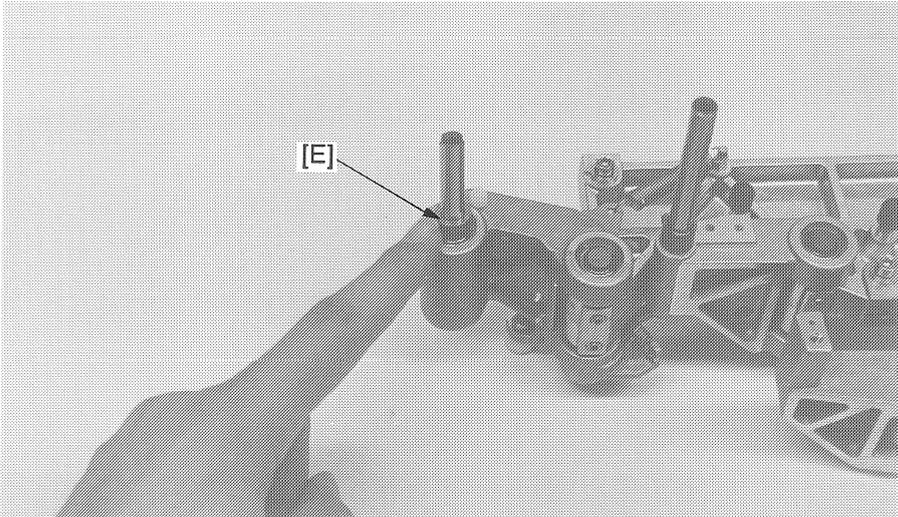

Fig. 48
5. Place a 0.1 mm and a 0.15 mm shim on the shaft collar [E] (Fig. 48).